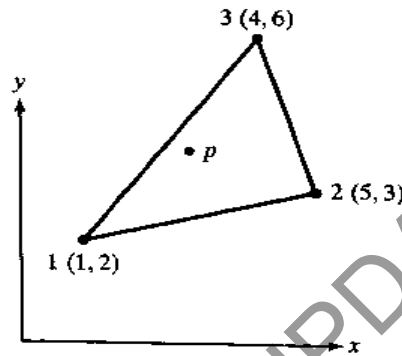

Figure 2.
- 5 a) The nodal coordinates of the triangular element are shown in Figure 2. [8]